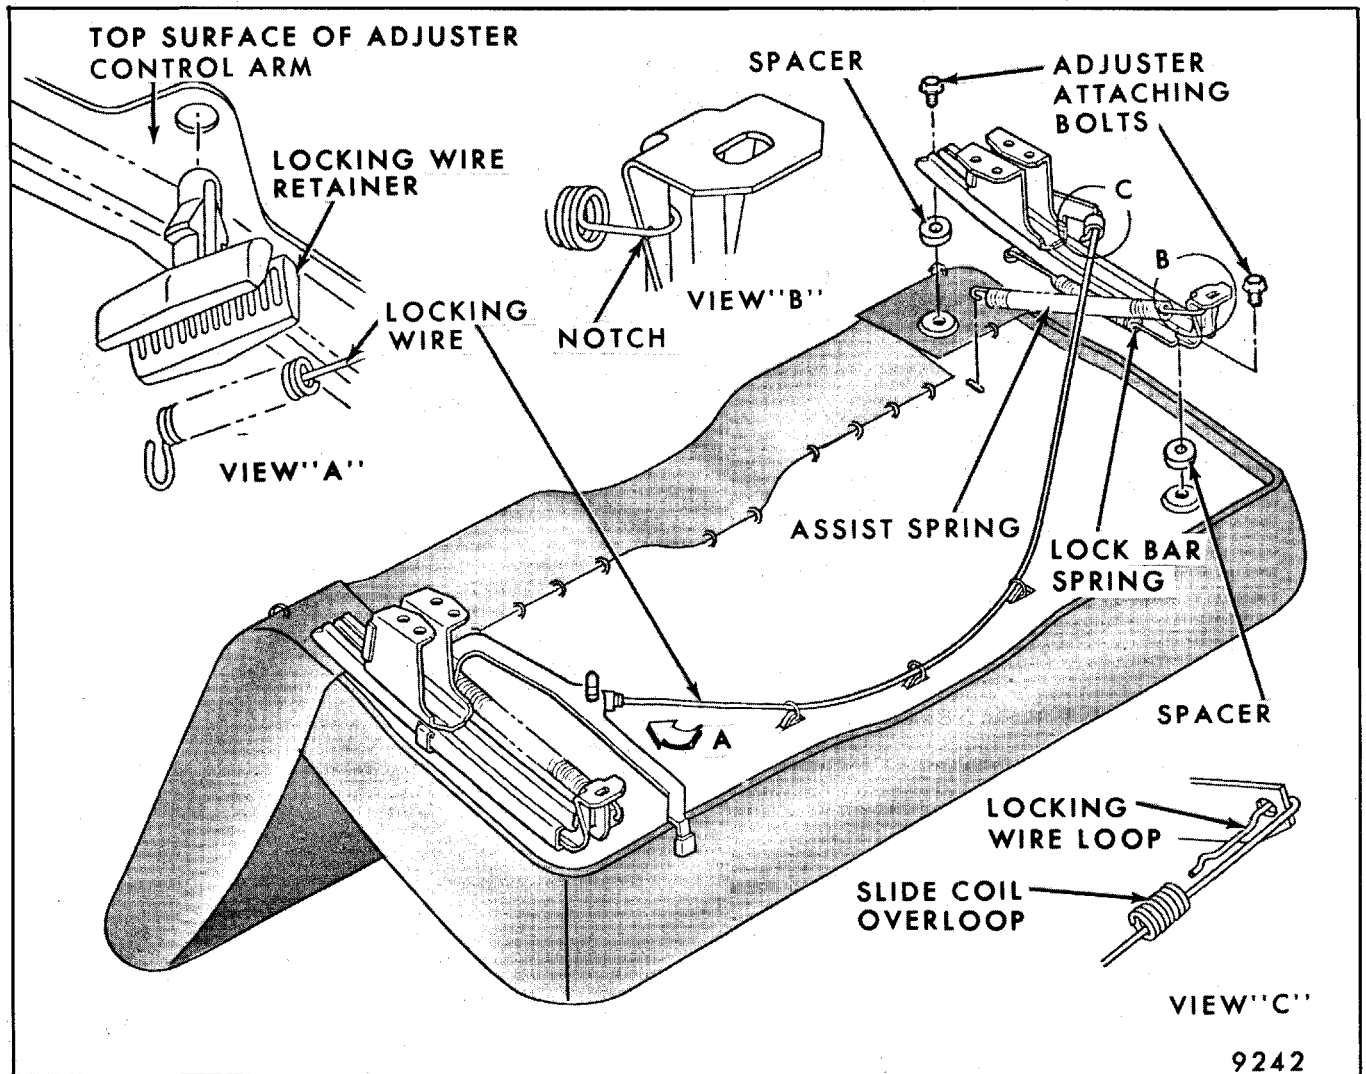

Fig. 9-18 - "B and C" Body Manually Operated Seat Adjusters - Full Width Seat
- Figure 9-18 - "B and C" Body Manually Operated Seat Adjusters - Full Width Seat